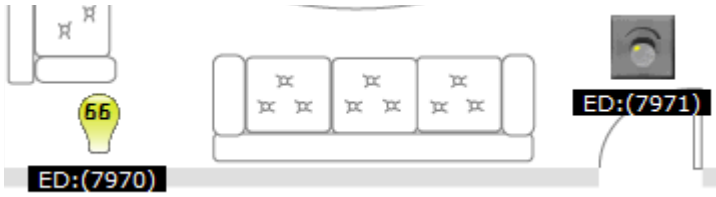

Figure 18. The Dimmer Switch Sending “Step Down 33%” to the Dimmable Light
4. Press SW1 on the Dimmer Switch board. This sends the “Step Down 33%” Command to the Dimmable Light. Notice how LED4 on the Dimmable Light boards turns off. The ZeD GUI shows the Dimmable Light bulb icon changing state and the percentage level on the icon lowers from 100 to 66 as shown in Figure 18.